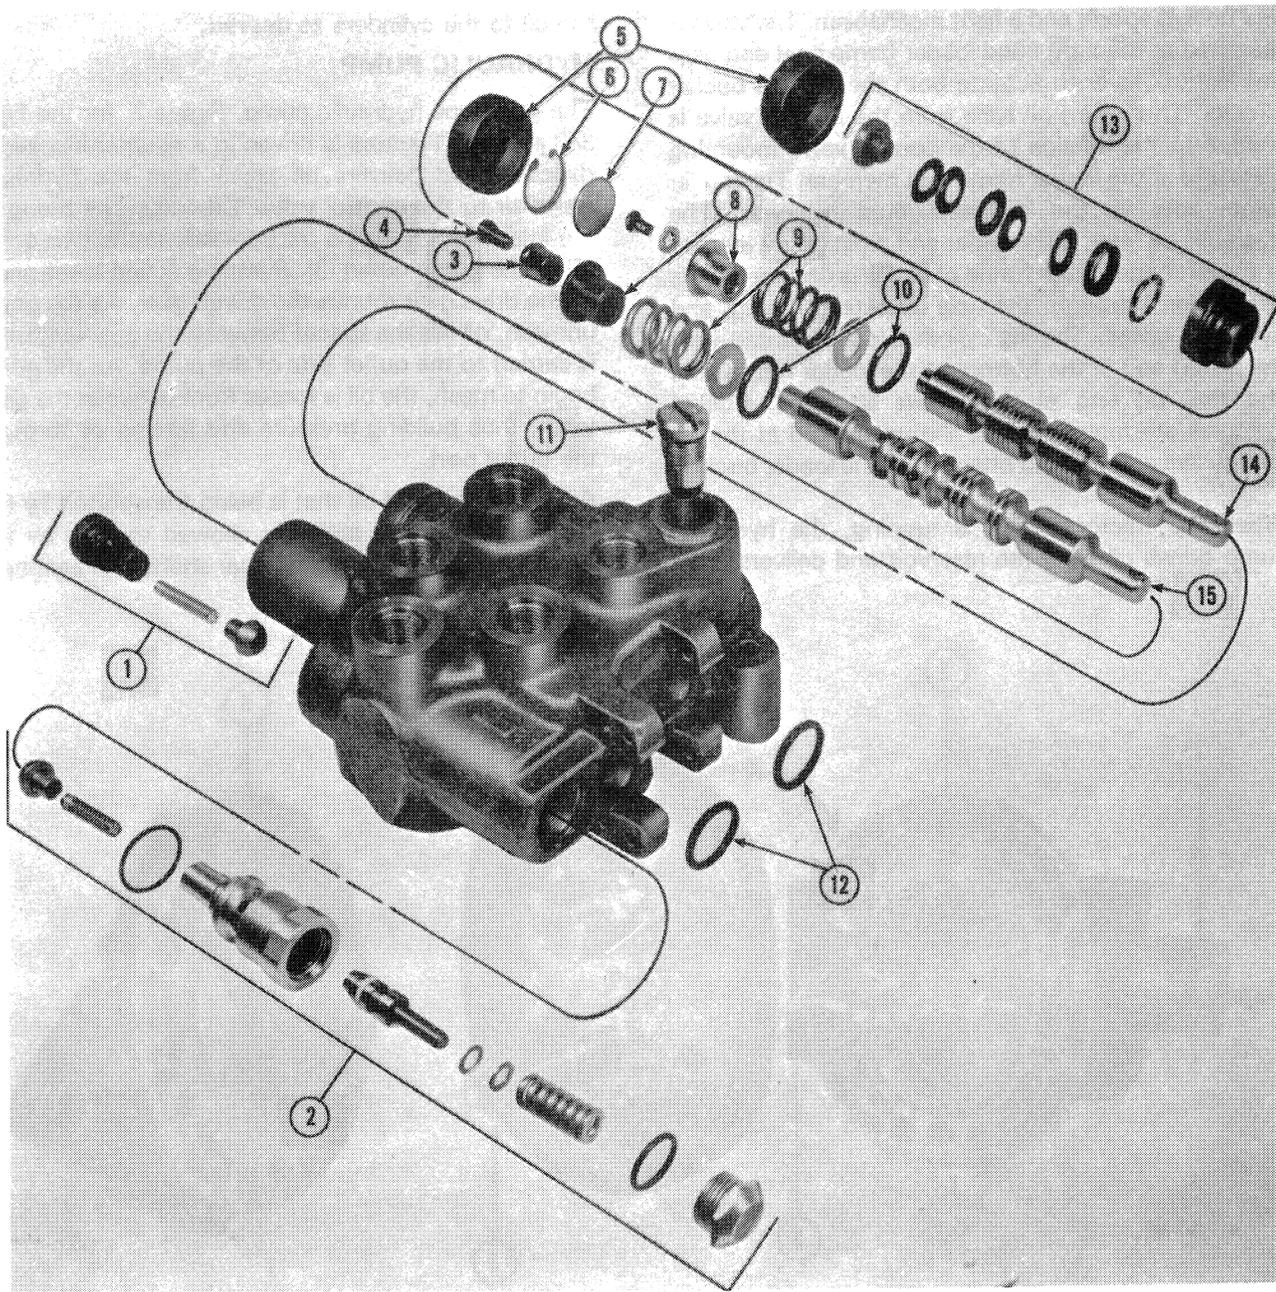
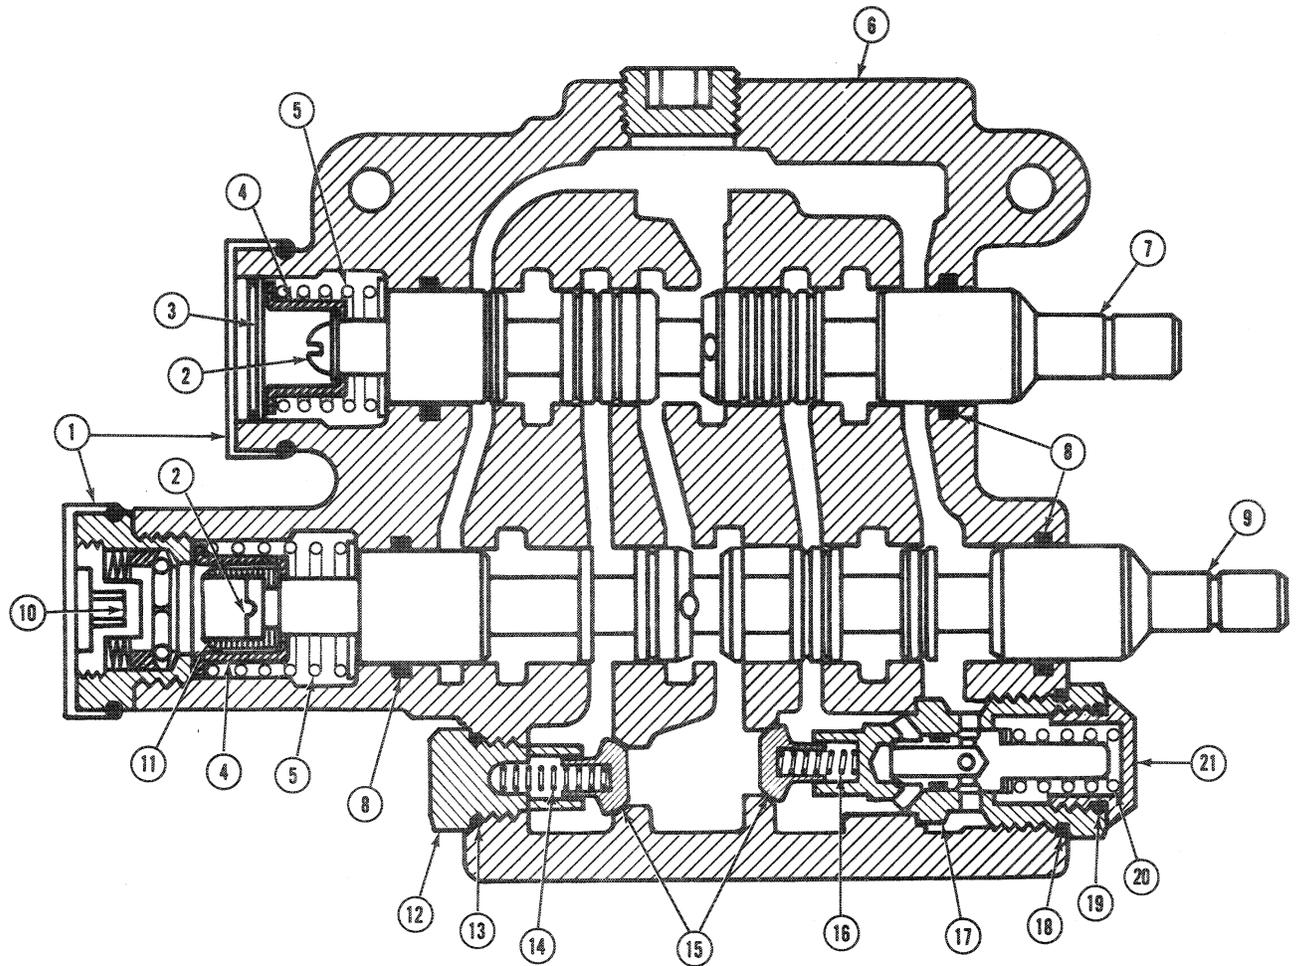

Figure 3
Figure 4
Refer to the Control Valve Exploded View, Figure 3, and the Control Valve Assembly Cutaway, Figure 4.
The cast iron control valve body houses all of the valve components and acts as an attaching point for the hydraulic tubes. The valve is bolted to a mounting bracket which is welded to the right hand loader frame post. The valve spools (14 and 15), Figure 3, are constructed of high carbon, ground, polished and chrome plated steel. The centering springs (9) and spring collars (8) are secured by screws at the ends of the spools
Check valves are located in both high pressure passages of the control valve, Figure 4. When a hydraulic cylinder is under load and a valve spool is moved to actuate the cylinder, there would be a